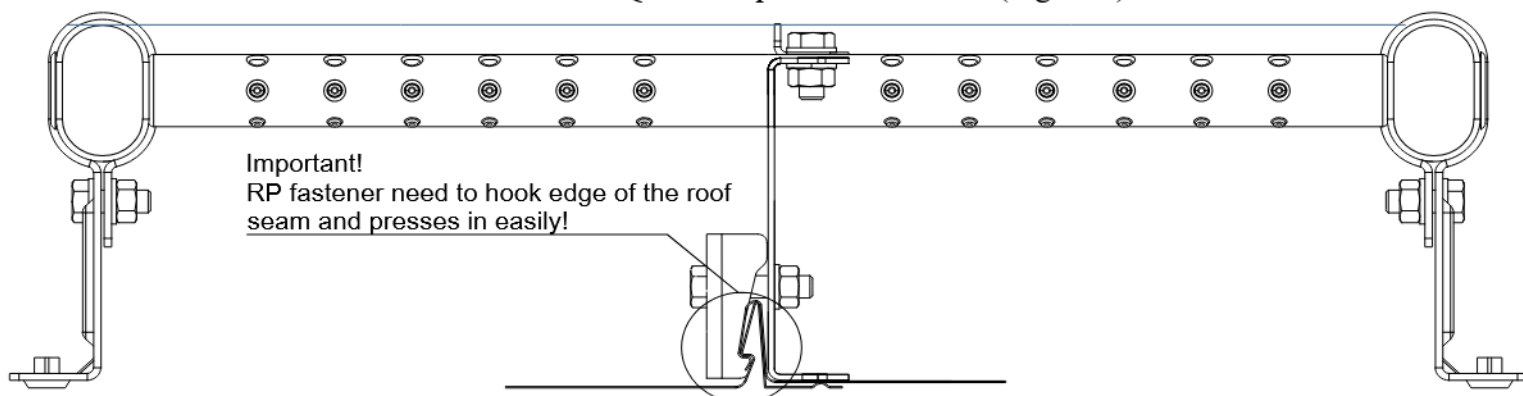

Figure 2.
- Install the C-bracket plates on one side of the roof seam and place the RP-brackets on the other side of the roof seam, and fasten them together using an M8x35 mm screw, M8 nut, and M8 washer. Tighten the screws with a force of 20 Nm, so that the screw easily presses into the RP-bracket and holds firmly to the roof material (Figure 2).
- Make sure that the C and RP-bracket parts are in the position shown in the figure (Figure 2).
- Install the J-counterplate on top of the C-bracket plate and fasten them together using an M8x16 mm screw, M8 nut, and M8 washer. (Figure 2).
- Install the Q-bracket plates on the sides of the roof ladder and fasten them together using an M8x20 mm screw, M8 nut, and M8 washer (do not connect the Q-brackets to the roof!). (Figure 2).
- Place the rubber insert between the Q-bracket and the roof material (Figure 2).